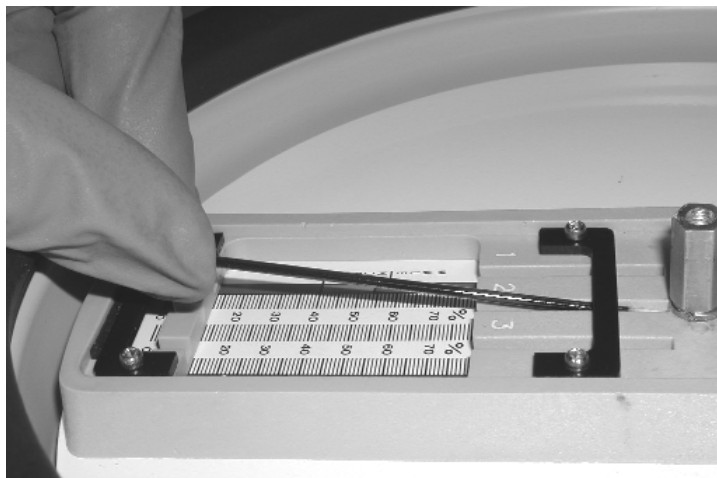
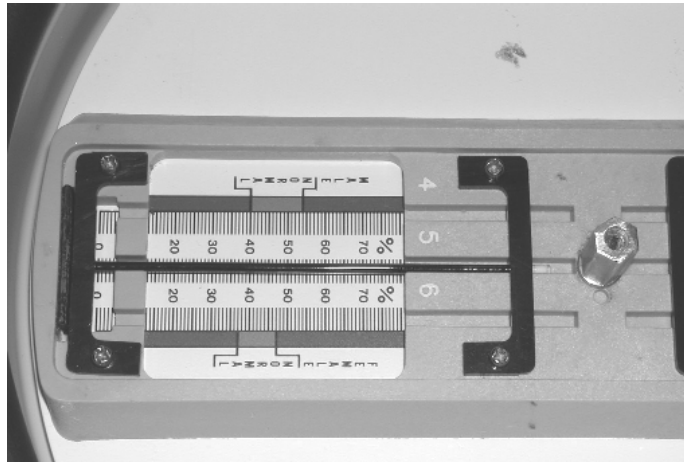

Figure 1
Figure 2
Step 1: Refer to Figure 1. Slide the tube under the tube retainer and gently push the tube toward the center of the rotor while lowering the tube. When properly inserted the tube will lie completely in the slot and rest flat against the rotor carrier as shown in Figure 2.